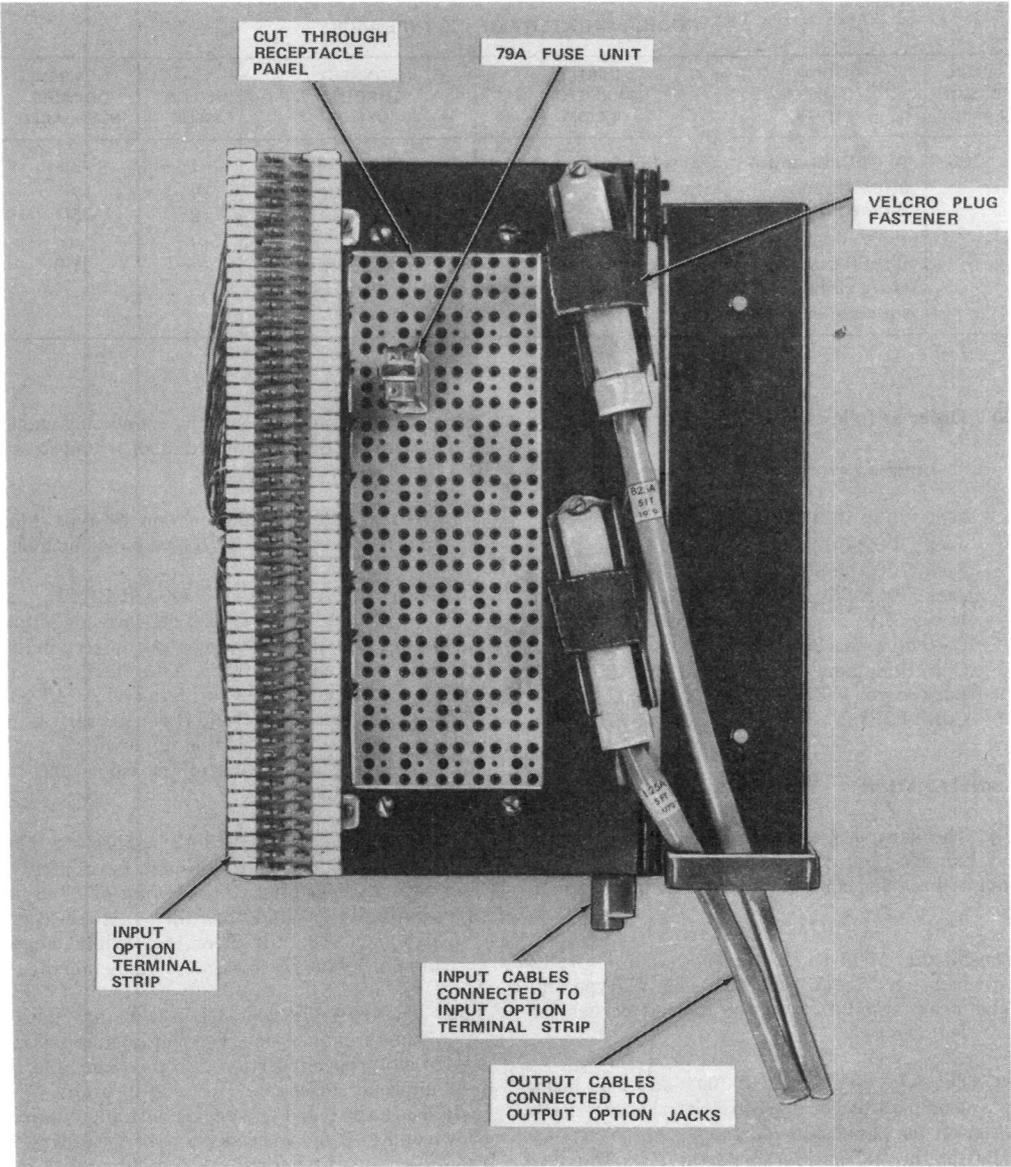
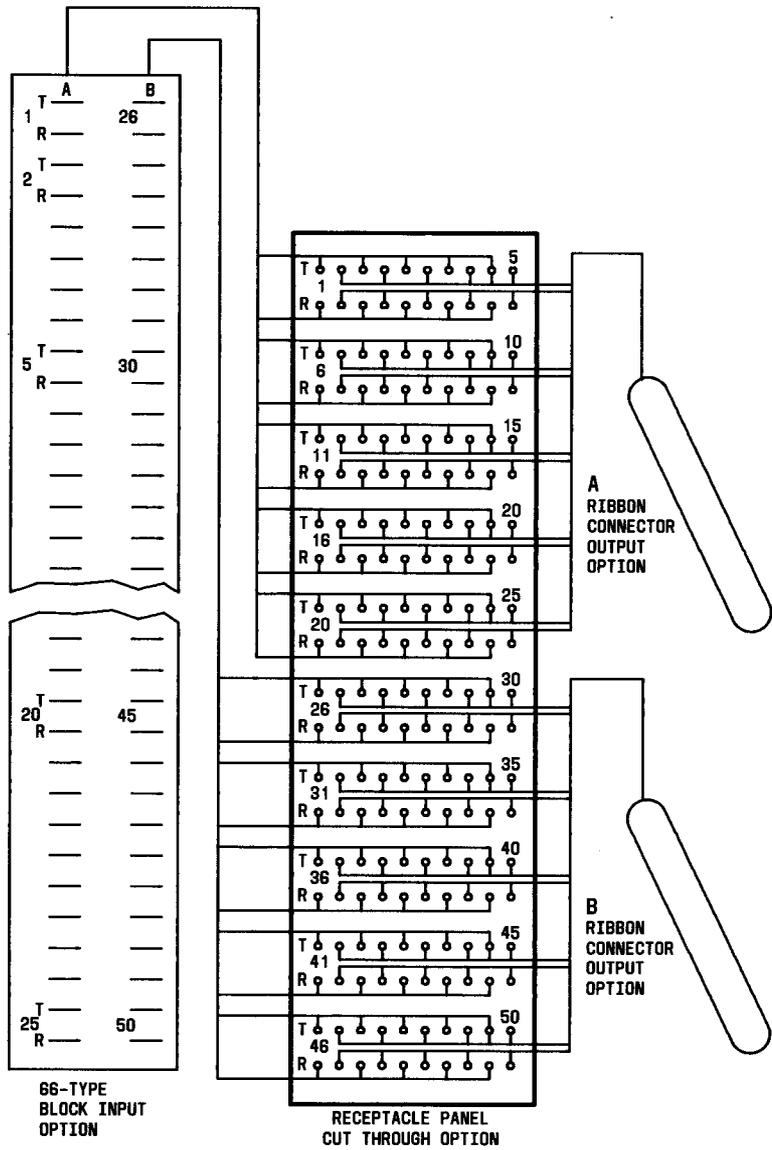

Fig. 2—700A-66-P1-50 Jack
Fig. 6—Wiring of 700A-66-P1-50 Jack
2.05 The 700A-66-P1-50 jack (Fig. 2) is a special purpose interface which provides a 50-pair 66-type connecting block for input option, two 50-pin ribbon connectors for output option, and a receptacle panel which accepts plug-in units for sneak current protection. The panel is separated into two fields, A and B, which coincide with the two output connectors A and B (Fig. 6). The block, connectors, and panel are mounted on a hinged faceplate which allows the input cables to be dressed up the back of the panel and fed through an access hole to the connecting block. The plug-in units (79A fuse or 4C12C dummy protector [Fig. 9]) must be ordered separately as required.
3.06 The 700A-66-P1-50 jack uses plug-in units for cut-through option. The plug-in unit has a key way to aid proper insertion into the panel and prevent improper insertion. The plug-in units will be installed in the panel to coincide with input pairs as shown on Fig. 6 and as needed for service orders. The 79A fuse is used where sneak current protection is needed and the 4C12C protector (dummy) where protection is not needed.